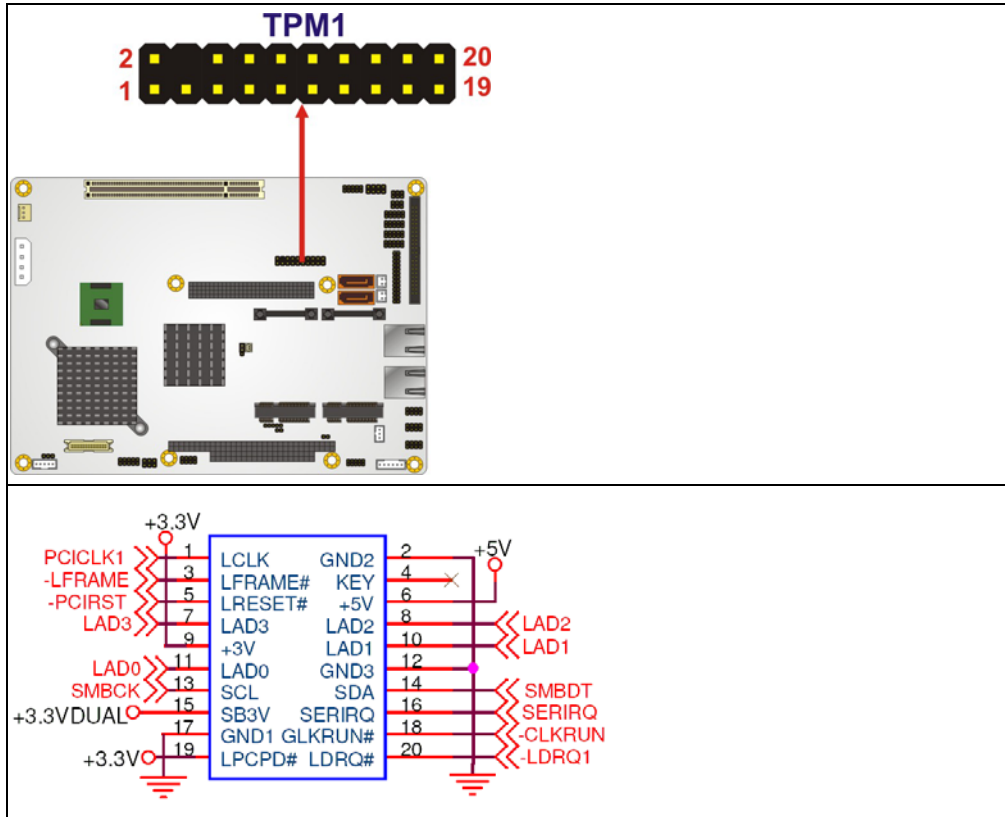

Figure 4-22: TPM Connector Pinout Locations
- CN Location:** See **Figure 4-22**